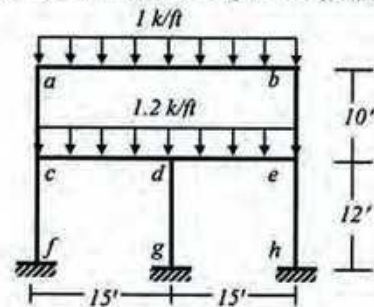

Fig.2
3. For the 2-storied frame structure loaded as shown in *Fig.2*, use the approximate location of hinges to draw the SFD and BMD of the beams and columns.